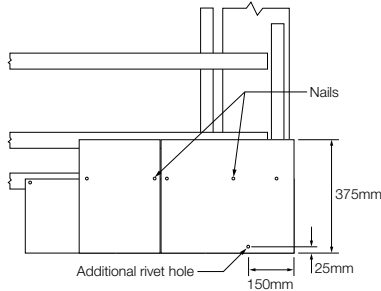

Fig. 14
- The remaining cut piece of each slate can be used for the second eaves course. Cut to size and drill 2 no. 4mm holes 20mm in from either edge for shoulder nailing the second under-eaves course of full width slates to the bottom batten. The slate-and-a-half widths laid at the verge require 2 additional drilled holes, 1 on the batten line for centre nailing and 1 drilled half a slate width in from verge and 25mm up, to allow for a copper disc rivet to fix the first full slate course (Fig. 14).